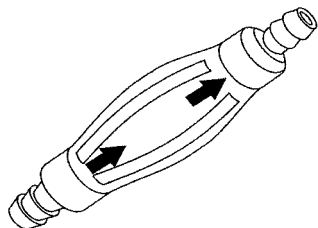

Figure 12. Priming Bulb
4. With the engine running, squeeze the water pump **priming bulb** (Figure 12) until water begins to flow through the water lines. If the pump is working correctly, the cutting blade should be covered with a steady water mist. This will keep the blade cool while cutting.